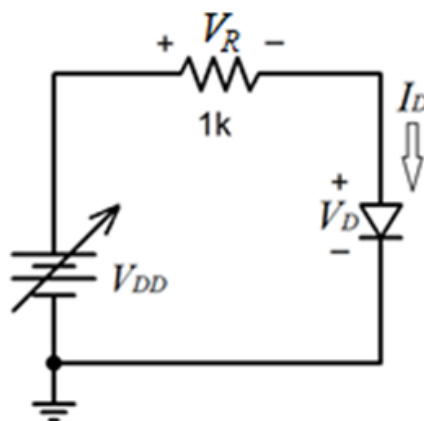

Figure 2.3 Circuit for measuring the i - v characteristics.
2. Connect the circuit shown in Fig. 2.3 initially with an ordinary silicon diode.